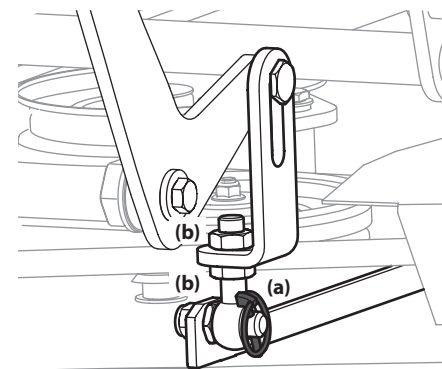

Figure 4-11
- Adjust the eyebolt (a) at the left front of the deck so that the blade-to-ground height at the right outside blade tip matches that of the left outside blade tip. This is done by loosening the jam nuts (b) on the eyebolt (a) and tightening the upper jam nut (b) to raise the deck and loosening the jam nut (b) to lower the deck. The right outer blade tip height is fixed by the right, front eyebolt (a) so you must adjust the left outer tip to match it. See Figure 4-11.
- Loosen the jam nuts (b) at the rear left and right of the deck eyebolts (a). Refer to Figure 4-11.